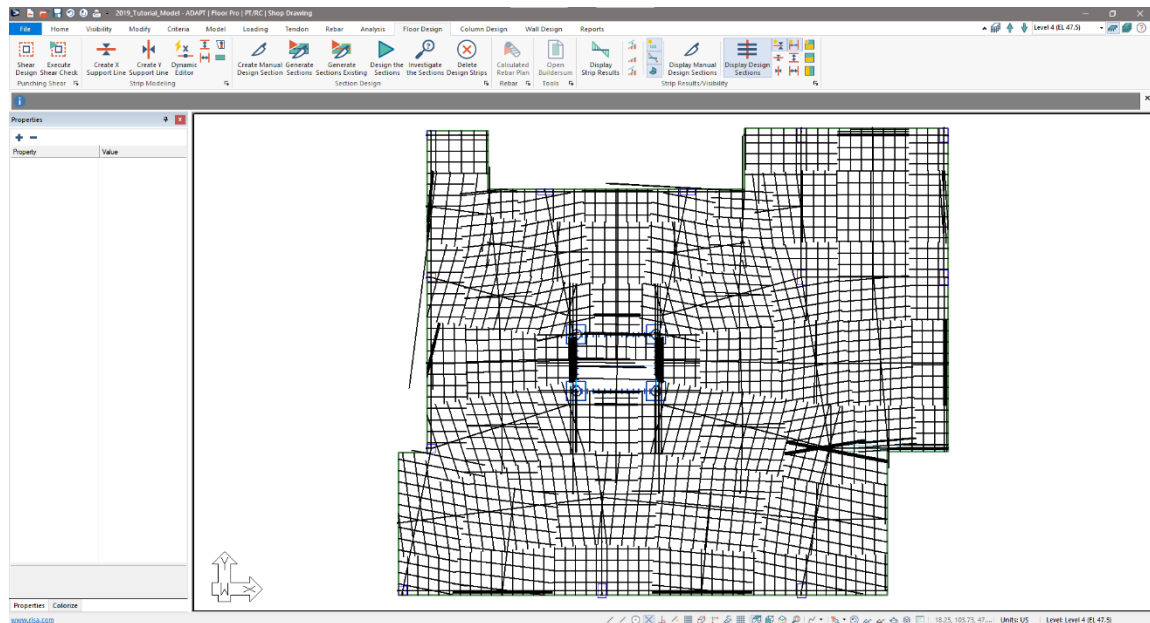

Figure 10-16
- Go to *Floor Design* → *Section Design* and click on the *Generate Sections* icon. When the process is completed the user should see design sections cut as shown in **FIGURE 10-16**.